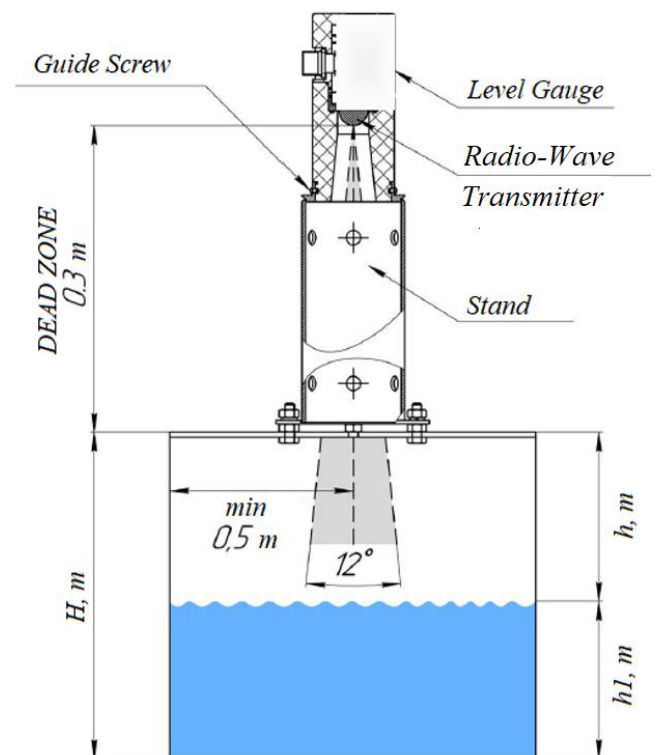

Figure 6. Installation Requirements
The minimum measurement reference point is 0.3 m from the radio-wave transmitter (see Fig. 6). It is called "dead zone" of the Level Gauge, when the reflected signal arrives to the sensor so soon that the Level Gauge does not have time to adjust from transmission to reception and the surface cannot be detected.
Proper installation of the Level Gauge is necessary for reliable operation of the radio wave level measurement system. The Level Gauge with a stand is designed to be installed on the top of the tank using bolts and nuts. Guide slots of the Level Gauge in the base box and guide screws of the stand help to attach it to the stand quickly (see Fig. 6).
It is recommended to install the U-150 Level Gauge at a distance of at least 0.5 m from the walls of the tank in order to avoid weakening or loss of the echo/signal (see Fig. 6).
- **HOLDER HEIGHT.m** – distance from the radio-wave transmitter to the stand's flange (0.3 m, see Fig. 6);
- **TANK HEIGHT.m** – distance H on Fig.6;